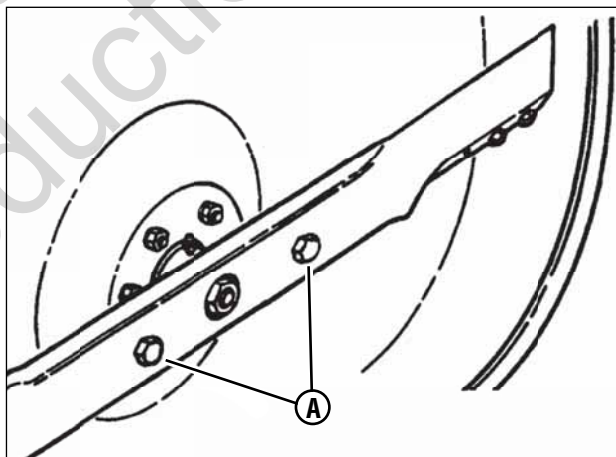

Figure 20: Checking blade bolt torque
3. Check the torque of the blade mounting bolts (A, Figure 20). As necessary, torque to 30 to 40 ft. lbs.